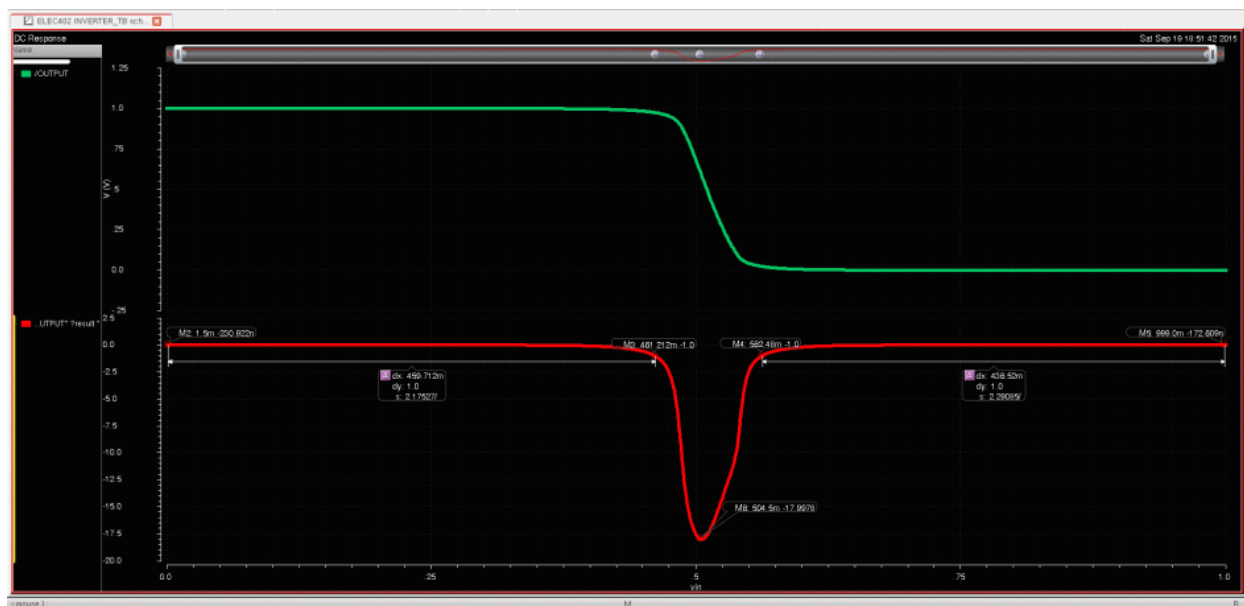

Figure 19 Derivative of the inverter's characteristic curve.
- Finally, press  to plot the derivative as shown in Figure 19.
From Figure 19 many information about the design can be interpreted. **What is the Value of the inverter's threshold voltage, noise margins, and gain?**